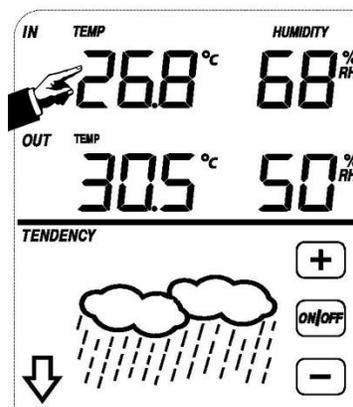

Figure 9
1. Touch the indoor temperature once, as shown in Figure 9. The indoor temperature will begin